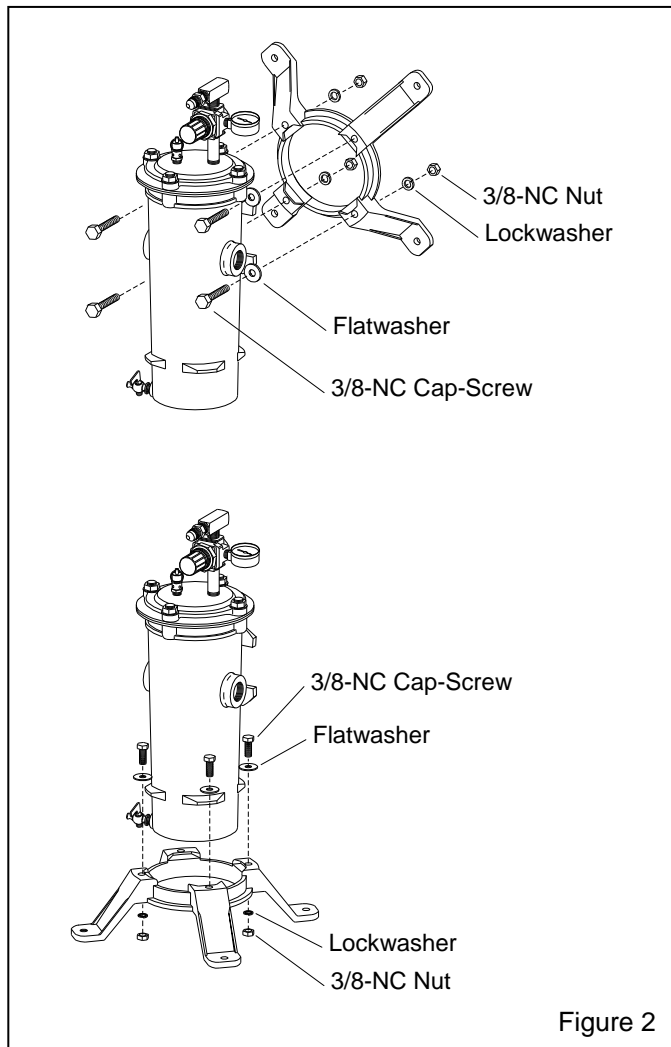

Figure 2
2.1.1 Refer to Figure 2 and attach the mounting bracket to the four bottom lugs for freestanding, floor use, or to the four side lugs for wall mounting.